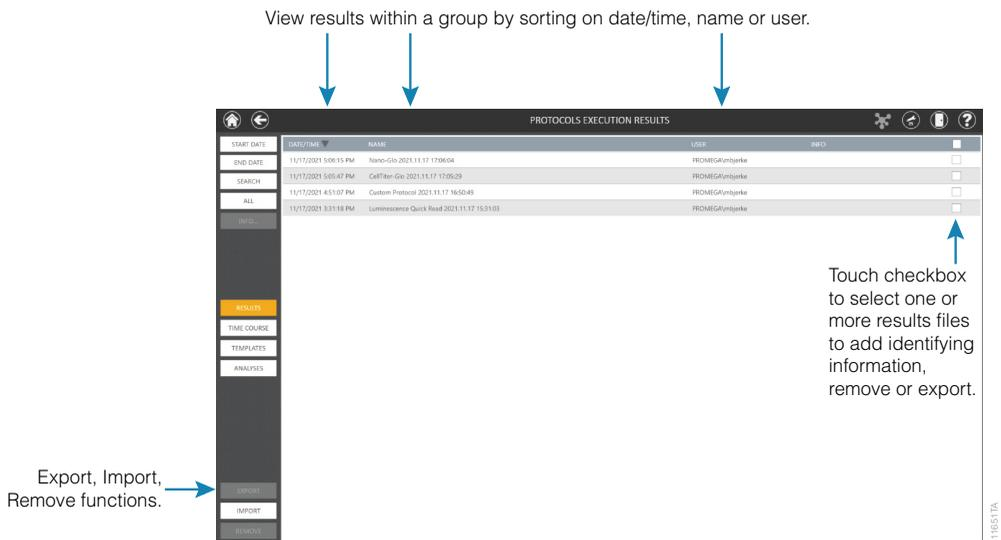

Figure 63. The 'Results, Templates and Analyses' screen.
2. The middle section of the Left Navigation column allows users to toggle the display on this screen between **Results, Templates and Analyses** (Figure 63).